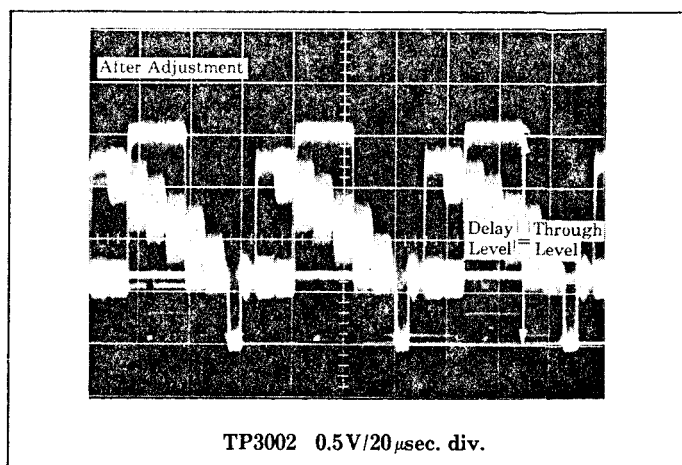

Fig. 24
- Adjust C3023 so that the delayed video level is same as the through video level as shown in Fig. 24.